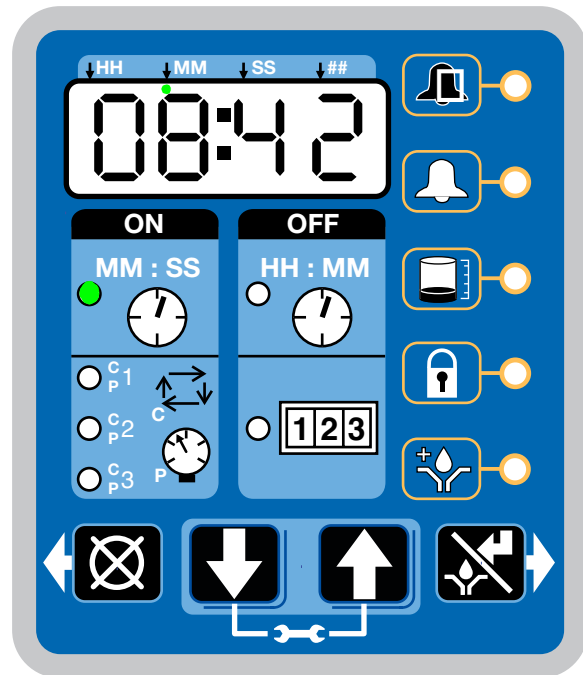

FIG. 48
- When the OFF Time count reaches zero, the G3 Automatic Lubrication Pump turns the pump on and it runs for the programmed ON Time cycle (FIG. 48).
- The example shown in FIG. 48 shows an ON Time of 8 minutes and 42 seconds before the lubrication cycle ends.